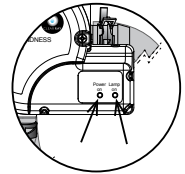

Figure 7
12. **System Test 1:** Assure there is no water dripping from the seal compression nut (9). If water is visible, STOP and tighten the compression nut (9) using a pair of channel lock pliers to a maximum of 1/4 turn. If that does not fix the leak, then repeat quartz tube maintenance process from step 1 through step 11. Make sure there is no water leaking before proceeding to step 13.
14. Reconnect the UV bulb socket (6) to the power cord socket (4) make sure you use the latex glove provided when handling the UV bulb.
15. Slide the new UV bulb (7) back inside the quartz tube.
16. Reinstall the black bulb boot (5) back over the quartz seal compression nut (9).
17. Reinstall the enclosure cover (2) and secure with the screws.
19. Once power is activated you can check the ballast, Figure 7, to see if the CLEARRAY System is functioning. The power on (red) light indicates that the CLEARRAY System is being provided power and should always be on. The lamp on (green) light indicates that UV bulb is activated.